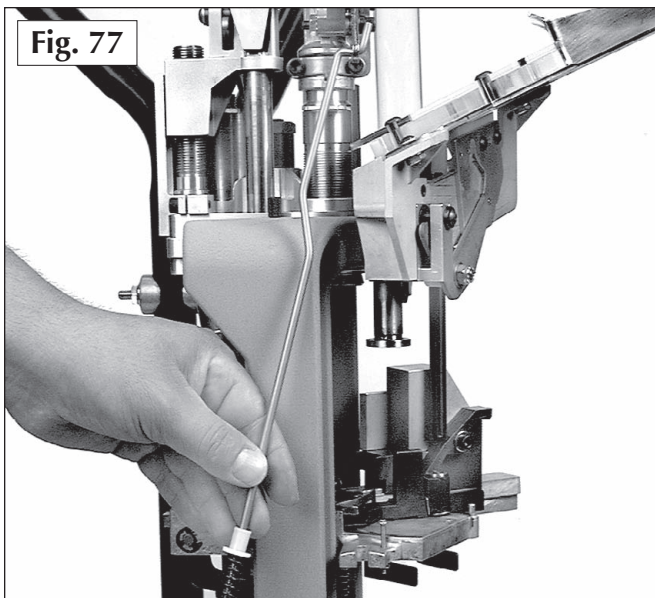

Fig. 77
1. Remove the powder bar return rod (#17350) from the machine. **Fig. 77**